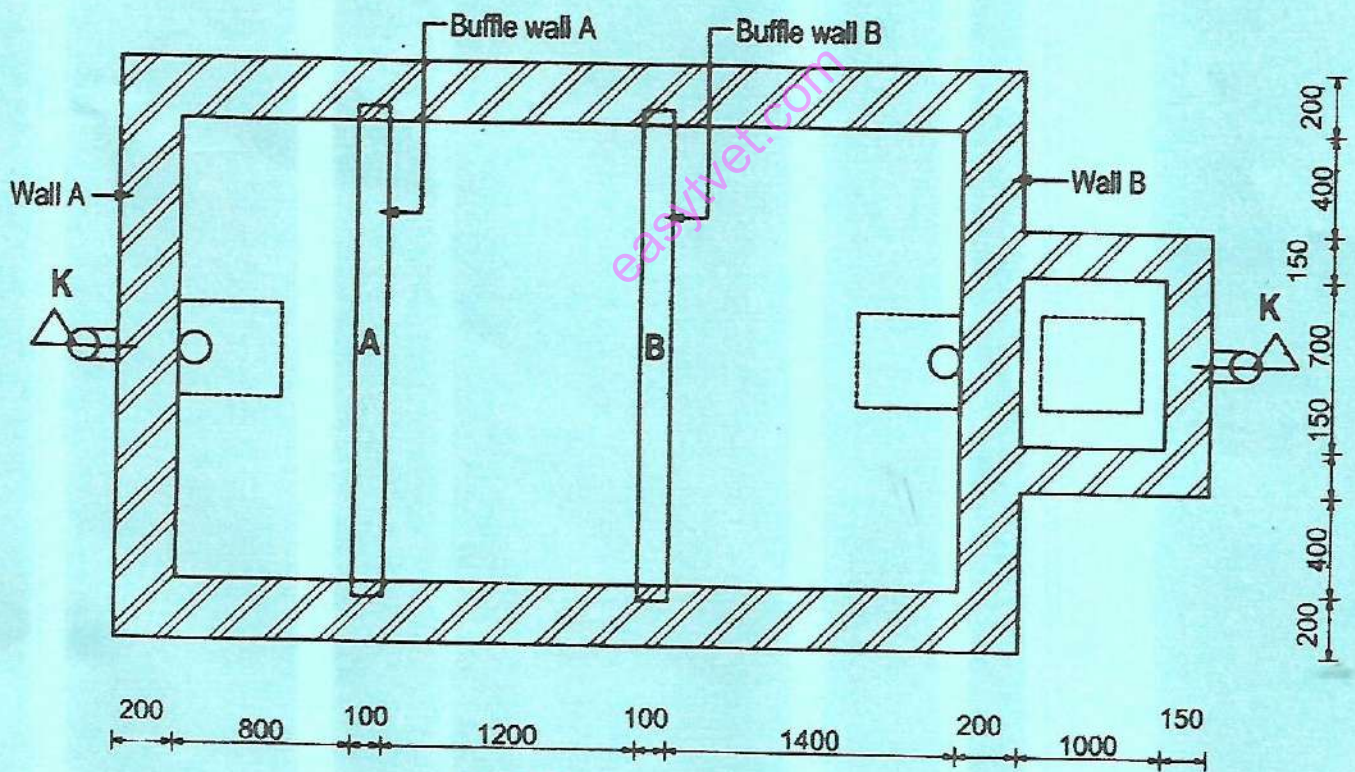

FIGURE 6
8. **Figure 6** shows the plan of a septic tank. To a scale of 1:25 draw section k-k using the data provided. (20 marks)